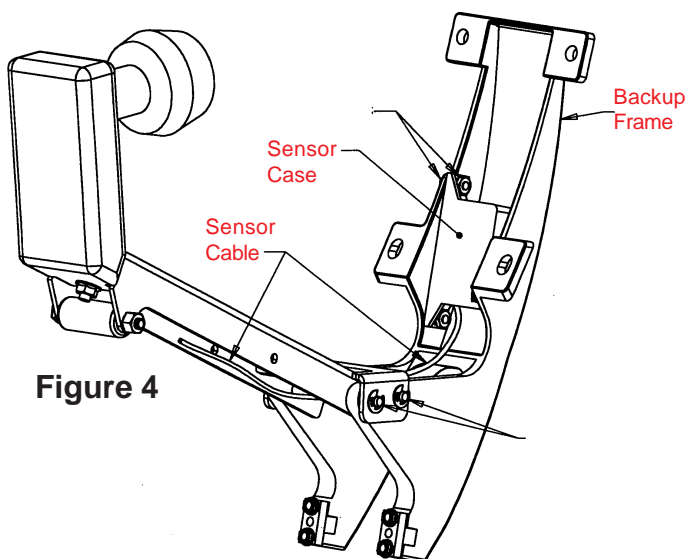

Figure 4
Step 3. Figure 4. To install Sensor with your RM model, remove dish from backup frame. Place Sensor inside backup frame, Figure 4. Cable must exit from bottom of Sensor. Route under pins, refer to Figure 4. Be sure case is placed so mounting screws are completely in slots. Fasten Sensor case to frame, being careful not to overtighten screws. Secure Sensor cable to coax with wire ties. **Go to Step 9.**